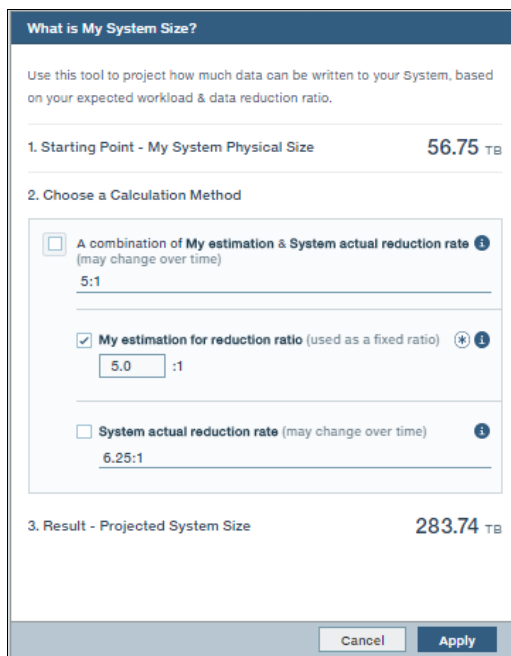

Figure 4-5 *User estimated reduction rate*
- User set estimated reduction ratio. See Figure 4-5.